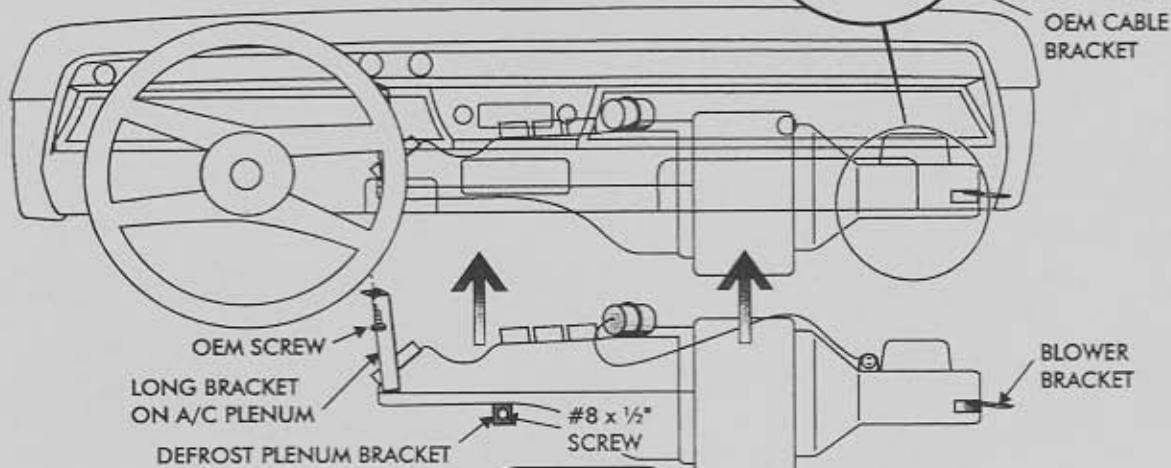

FIGURE 16
- LAY EVAPORATOR UNDER DASH ON PASSENGER SIDE (SEE FIGURE 16, PG. 7).
- ATTACH THE LONG BRACKET ON THE A/C PLENUM (TO THE OEM DEFROST DUCT MOUNTING HOLE) USING THE OEM SCREW AND TIGHTEN. SEE FIGURE 16, PG. 7.